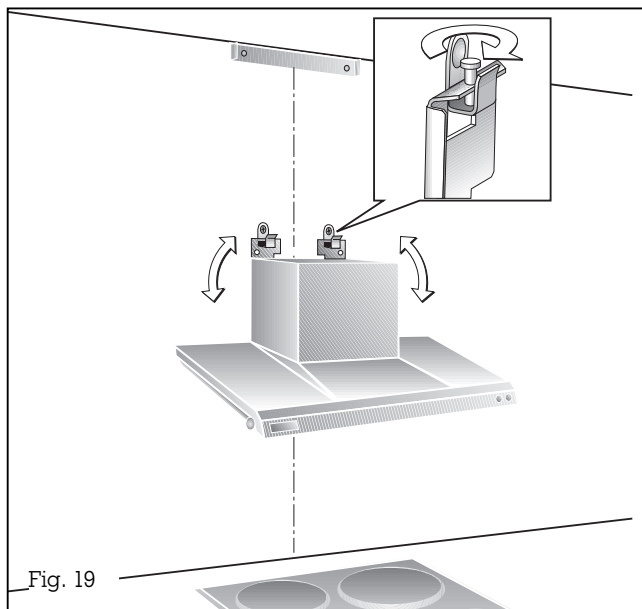

Fig. 19
- Hang the hood on the two hooks. Adjust the suspended element with the recessed head screw and align the hood using a spirit level (Fig. 19).
- Hang the hood on the two hooks. Adjust the suspended element with the recessed head screw and align the hood using a spirit level (Figure 19).